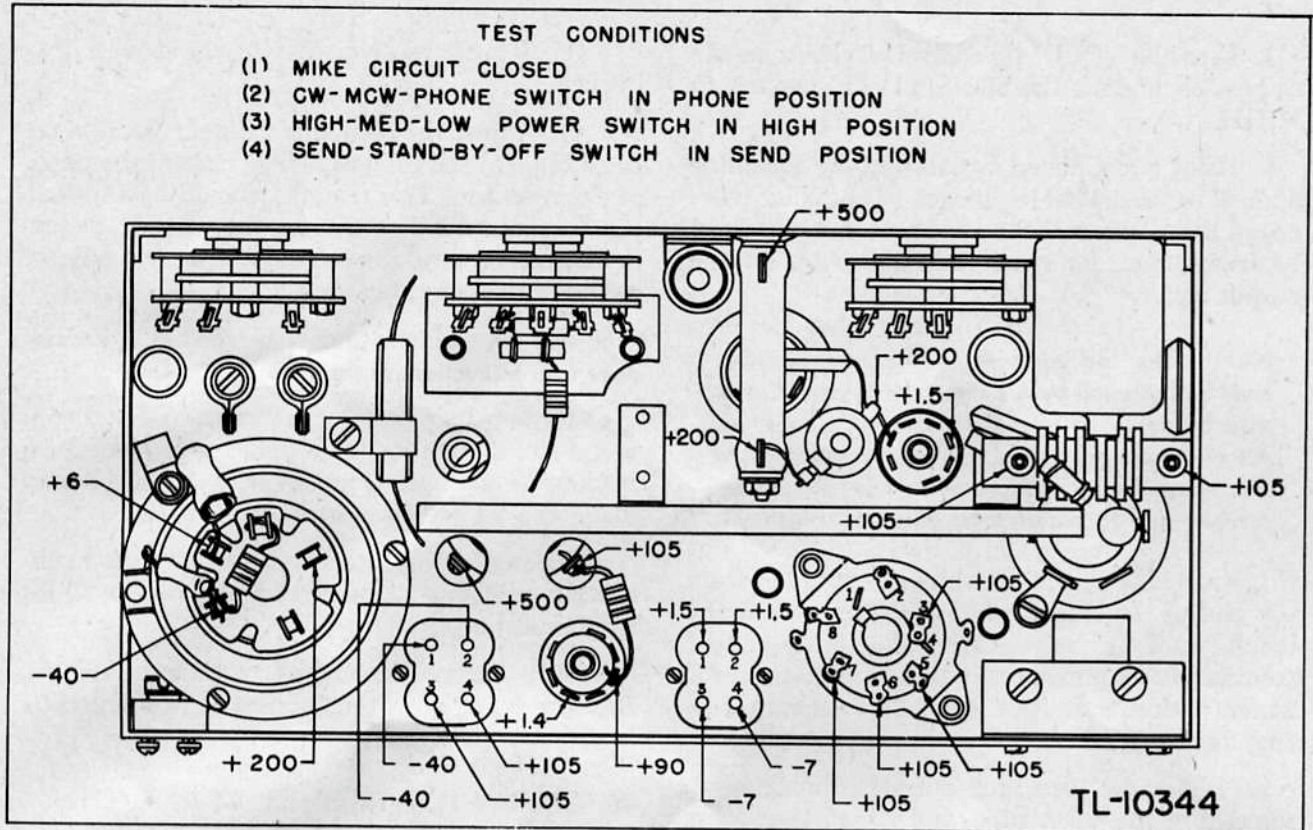

Figure 36. Normal voltage chart, transmitter.
o. As a final check to insure proper alignment, the transmitter should be tuned at one end of the frequency band and then at the other. At the same time adjust the knob TUNE FOR MAX. IND. GLOW at each end. This is done to make certain that the indicator glows at normal brilliance and can be tuned to resonance at each end of the band. Correct voltmeter readings are shown in the chart at the rear of the transmitter shield and in figure 36.